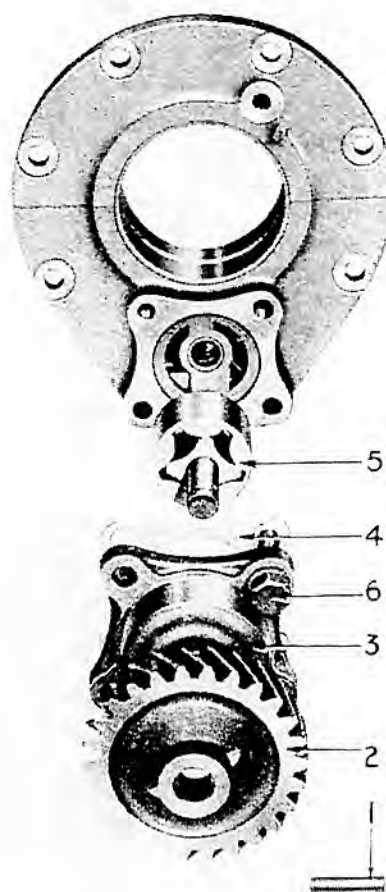

FIG. 101 OIL PUMP AND FRONT MAIN BEARING HOUSING
The oil pump, illustrated in Fig. 101 is spigoted and flange bolted to the front main bearing housing and driven by a helical spur gear from the crankshaft.
It will be seen from Fig. 101, that the outer rotor has five lobes while the eccentrically mounted inner rotor has four. Thus, as the shaft turns, oil from the vacant space over the inlet port is transferred to the outer port, from which it is expelled as the lobes engage.
For this bush the opposite side of the jig is used. This has the longer spigot and is also recessed to accommodate the mounting spigot of the pump body. The dowel fits into the hole for the locating screw, shown (6), Fig. 101. Secure in position with nuts and bolts through diagonally opposite fixing holes. With the jig firmly located, ream through the bush carefully and blow out swarf after completion.